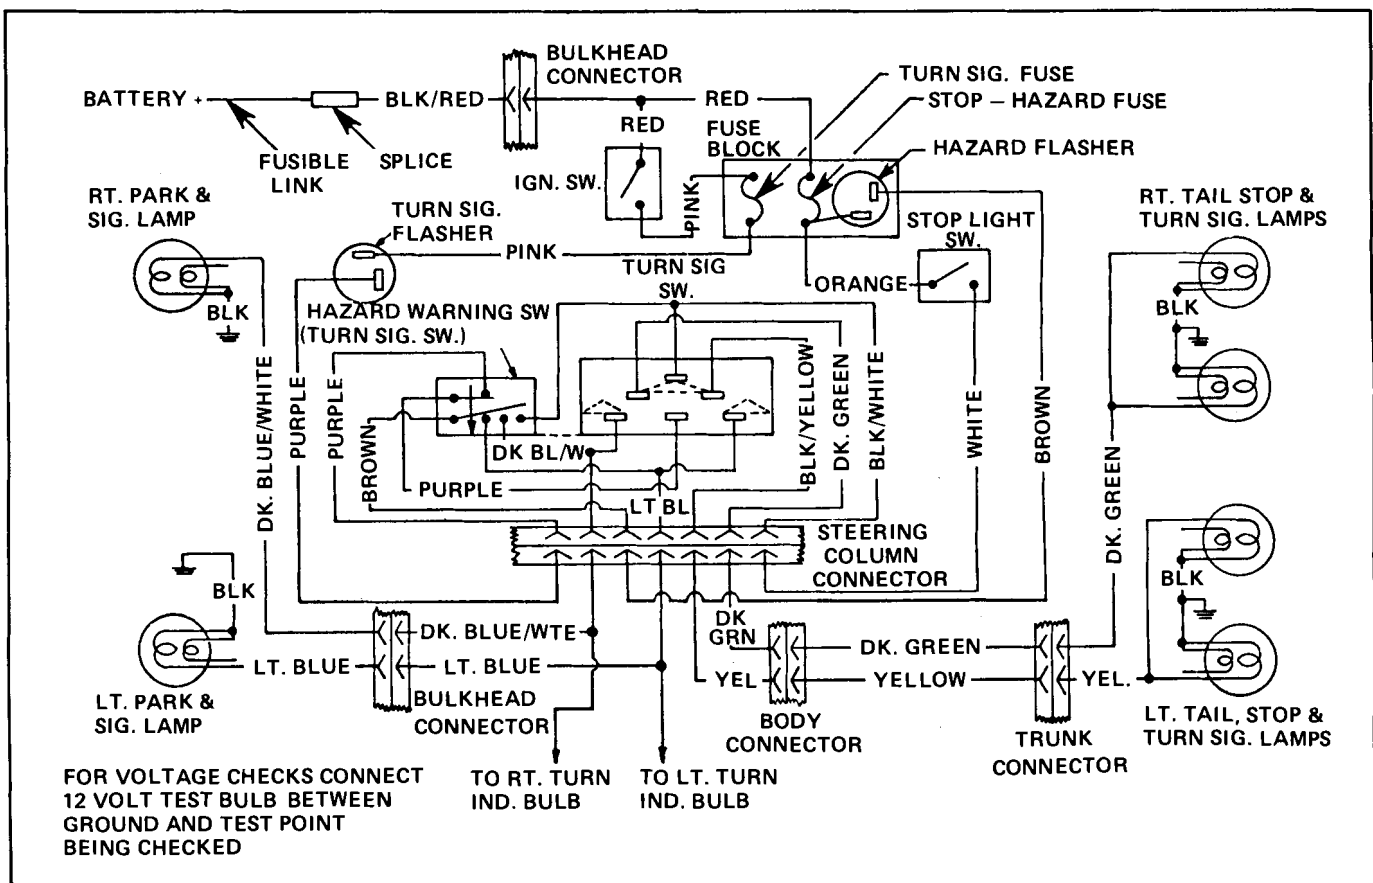

Fig. 12-19 Turn Signal and Hazard Warning Lamp Circuit
*See turn signal and hazard warning lamp circuit (Fig. 12-19).